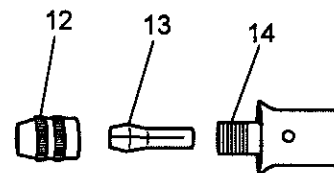

Fig. 5
2. Remove collet nut (12) and remove collet (13) from end of shaft (14) (see Fig. 5).
Do not store or operate flex shaft with a bend radius of less than 6" (150mm) (see Fig. 5).